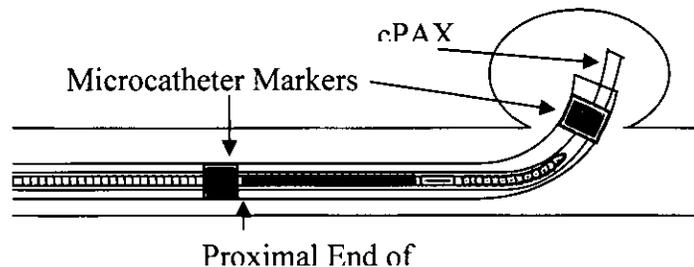

Figure 6 – D3 / Microcatheter Marker Alignment
- 3.2 Continue to advance the D3 under fluoroscopic guidance until the radiopaque marker aligns with the proximal marker of the microcatheter as shown in Figure 6.
- 3.2.4 Repeat steps 3.2.1 through 3.2.3 to achieve marker alignment as shown in Figure 6.